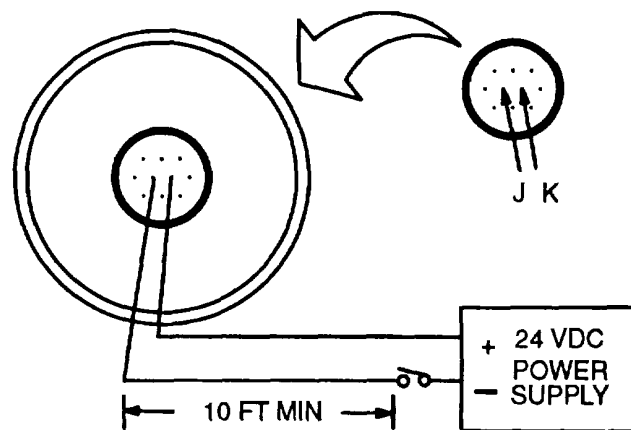

Figure F-3. Wiring diagram for firing BA-629/U and BA-630/U
(2) Electrical Firing of BA-629/U and BA-630/U:
- (a) To fire the battery, an electrical current must be applied to pins J and K (the two centrally located pins) of the battery connector. See figure F-3.
- (b) Connect a switched power supply to pins J and K as indicated in figure F-3. Fire the battery by closing the switch for no more than three (3) seconds.